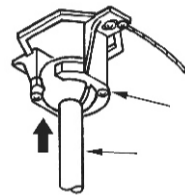

Fig.12
Step 5: Now lift motor assembly into position and place hanger ball into hanger bracket. Rotate until the check groove has dropped into the registration slot and seats firmly. Rod should not rotate if this is done correctly (Fig. 12)